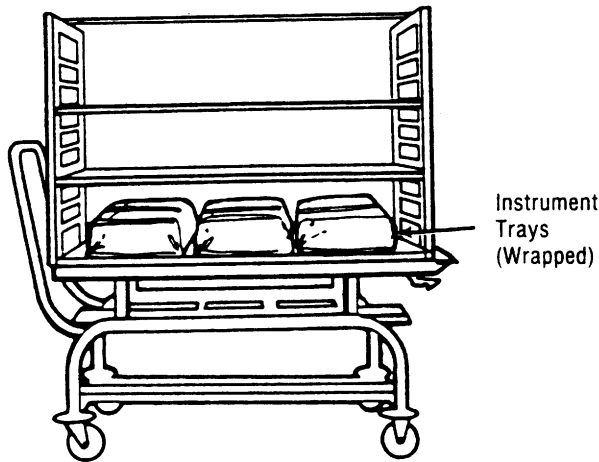

Figure 11. PLACE WRAPPED INSTRUMENT TRAYS FLAT ON SHELF
- a. Place wrapped instrument trays flat on the loading car shelf (Figure 11). Never stand heavy instrument trays on edge for sterilization. Proper sterilant contact and drying may not be able to be achieved.